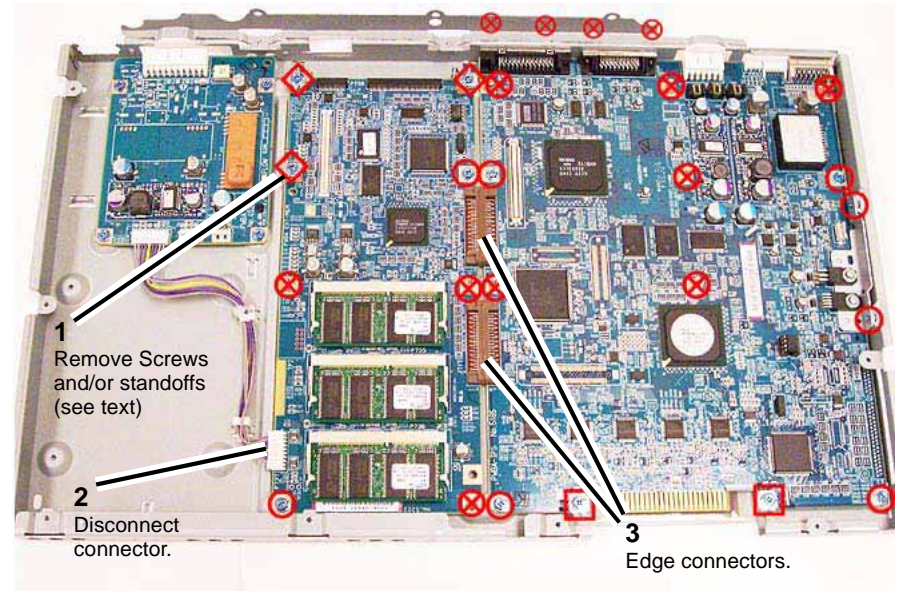

**Figure 2 IPS PWBs**
6. Remove the (15) screws securing the IIT/IPS Cover and remove the cover.
7. Figure 2 shows the location of the PWBs.
8. Remove the BDEC PWB (Figure 2).
- a. Note the location and orientation of the three (3) ground clips and (3) screws securing the clips and the BDEC PWB in place.
- b. Remove the (3) screws and (3) ground clips from the BDEC PWB.
- c. Disconnect one (1) connector to the IIT/IPS PWB.